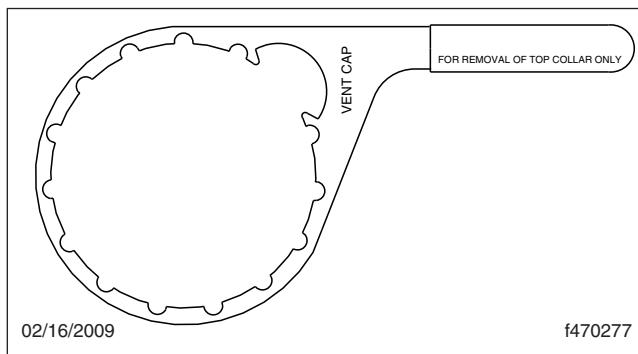

Fig. 23.3, DAVCO Collar Wrench
3. Using a DAVCO collar wrench, shown in Fig. 23.3, remove the clear cover and collar.